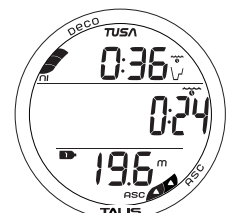

Fig. 57 - NO DECO MAIN
**No Deco Main**, information includes (Fig. 57):